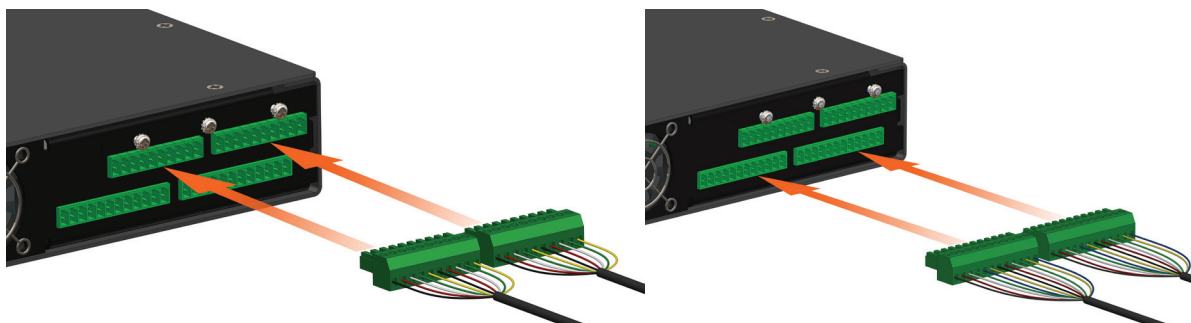
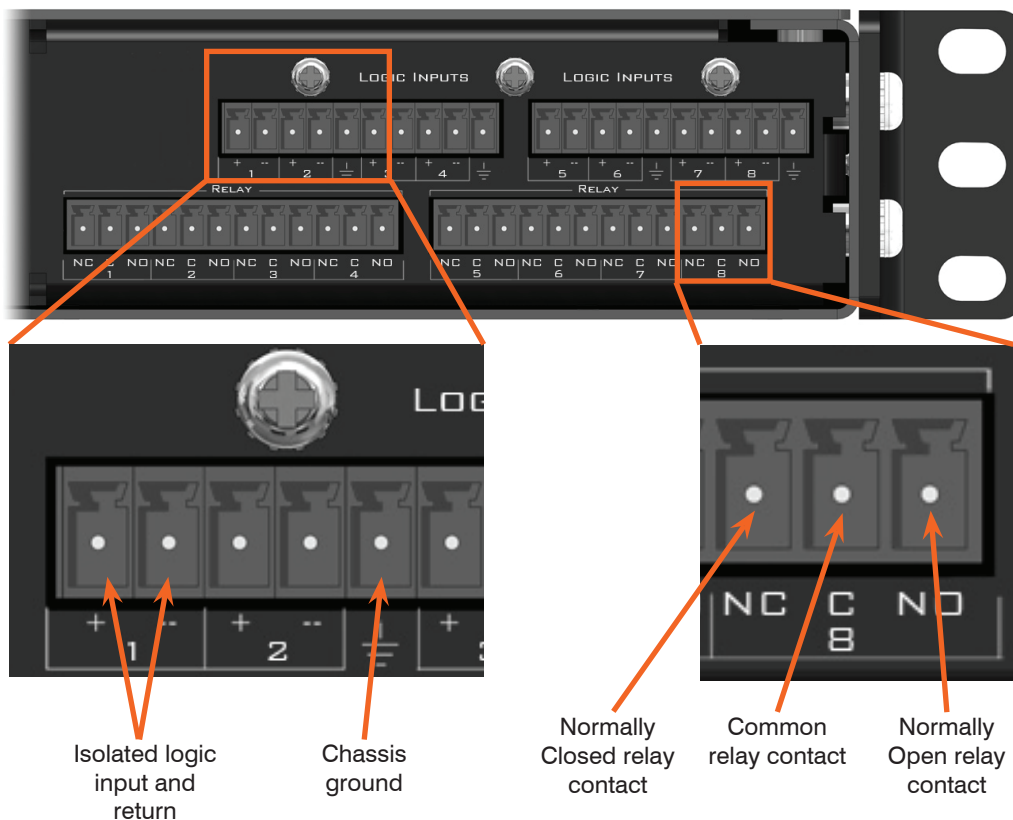

Figure 8 - Connecting Logic and Relay Lines
Figure 9 - Logic and Relay Connector Detail
The IED1200 provides eight (8) logic sensor inputs and eight (8) dry contact outputs that can be used to trigger announcements, mute the system, provide control to external systems, or indicate a fault status. As required for the application, attach logic input lines and relay output lines to the terminal blocks provided, as shown in Figure 8 and Figure 9.
Each logic input is isolated and terminations are made by connecting the signal to the + terminal while using the – terminal for the return path to the signaling device. Pins 5 and 10 on each connector provide a reference to chassis ground. Refer to Figure 9 for details on the logic and relay terminals.